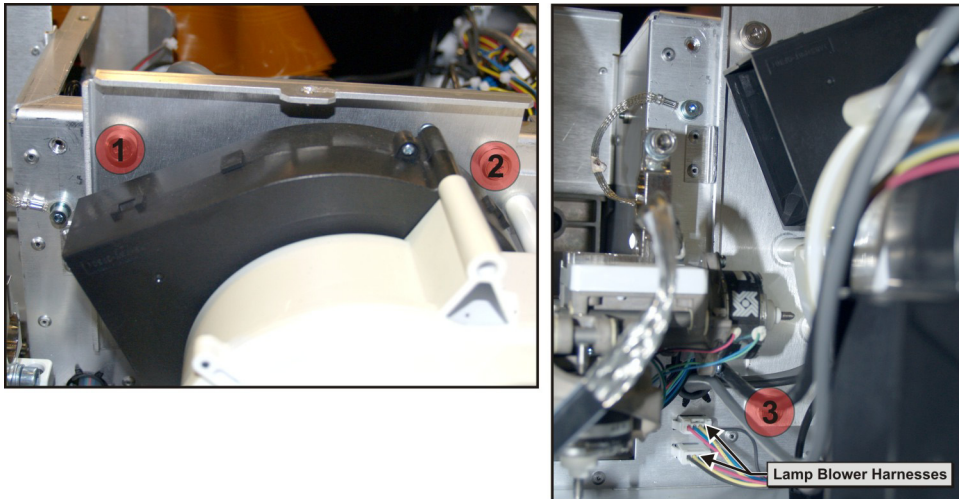

Figure 5-20 Loosen Captive Screws
6. Loosen the three captive screws (**Figure 5-20**).